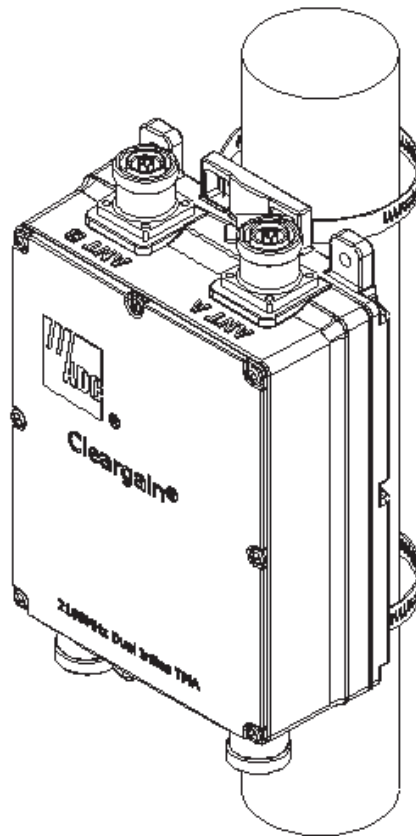

Figure 3. Typical MHU Clamp Mounting Kit Components
Pole mounting kits are provided for installing the MHU. See Figure 3. Before any installation, check that the ClearGain MHU has no visible damages or defects. Place ClearGain MHU as close to the antenna as possible.
1. When installing on a pole a clamp kit (Figure 3) is required. The kit is designed for tube diameters of 30 to 140 mm.